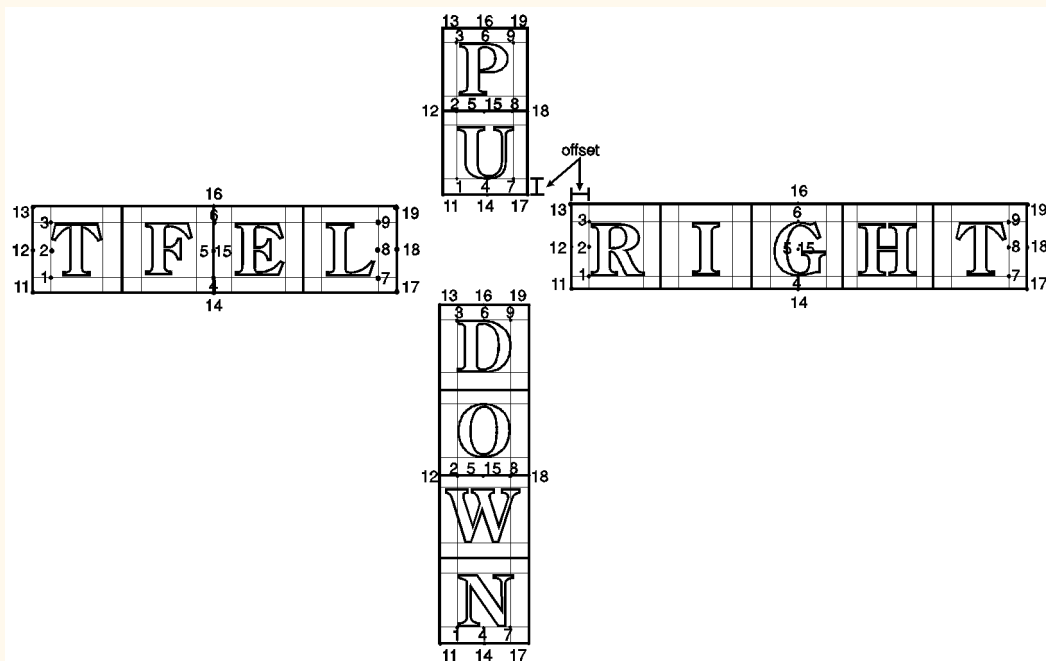

Figure 116. Label Origin Positioning
- **position:** Specifies the label location relative to the current pen location. Values 1, 2, 3, 11, 12, or 13 left-justify the label; values 4, 5, 6, 14, 15, or 16 center the label; and values 7, 8, 9, 17, 18, or 19 right-justify the label. Values 11, 14, or 17 position the character cell above the current pen location; values 13, 16, or 19 position the label below the current pen position or at intermediate points. Values 1 to 9 position the character cell relative to the current pen position; values 11 to 14 and 16 to 19 offset the labels (the offset is one-quarter of the character's point size, or one-third of the point size [16 grid units] for stick fonts). Left and right are interpreted relative to the character baseline; above and below are relative to the character-up vector. The position numbers are graphically illustrated in Figure 116. Each dot represents the current pen location.
The label position 21 provides a PCL-compatible label origin. The character(s) are printed at the same location as in PCL. (Label position 21 is not shown in Figure 116 because the exact location is dependent on the PCL position.)
LO positions are applied to imaginary box drawn round the label on a line-by-line basis, regardless of the text path set by DV. Figure 116 shows LO positions for each of the possible text paths. Note the horizontal and vertical offsets for values 11 to 14 and 16 to 19.